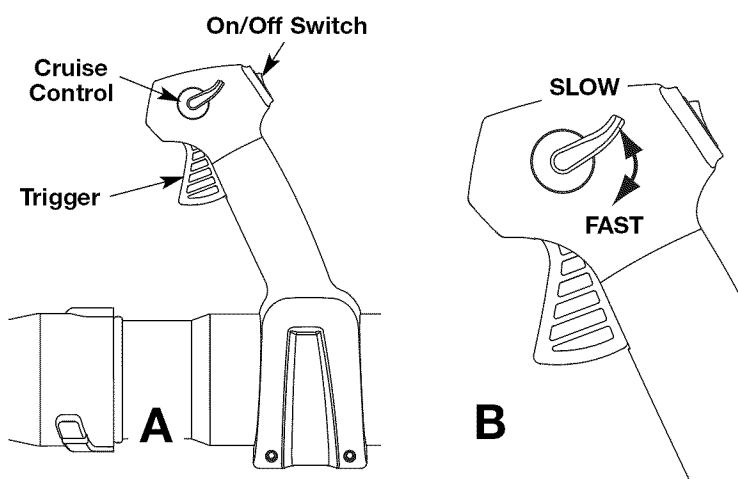

Fig. 16
**NOTE:** The unit should be started in idle. Do not squeeze the trigger while starting (Fig. 16, A).
1. Once the engine has started and warmed up, squeeze the trigger to accelerate the unit as needed (Fig. 16, B).
2. For longer periods of operation and to eliminate possible finger fatigue, move the cruise control toward the FAST position to incrementally increase or maintain the unit's engine speed (Fig. 16, B). When the cruise control is pressed, the trigger will recede into the handle.
3. To decrease engine speed, move the cruise control to the SLOW position and the trigger will return to idle position (Fig. 16, B).
2. Press the On/Off Stop Control switch in the OFF (O) position and hold until the engine comes to a complete stop (Fig. 16, A).
- Use the trigger lock (Fig. 16) to keep the trigger depressed while operating to make continuous operation easier.
## TRIGGER LOCK (Fig. 16)
1. Squeeze and hold the trigger (Fig. 16).
2. Press and hold the trigger lock (Fig. 16).